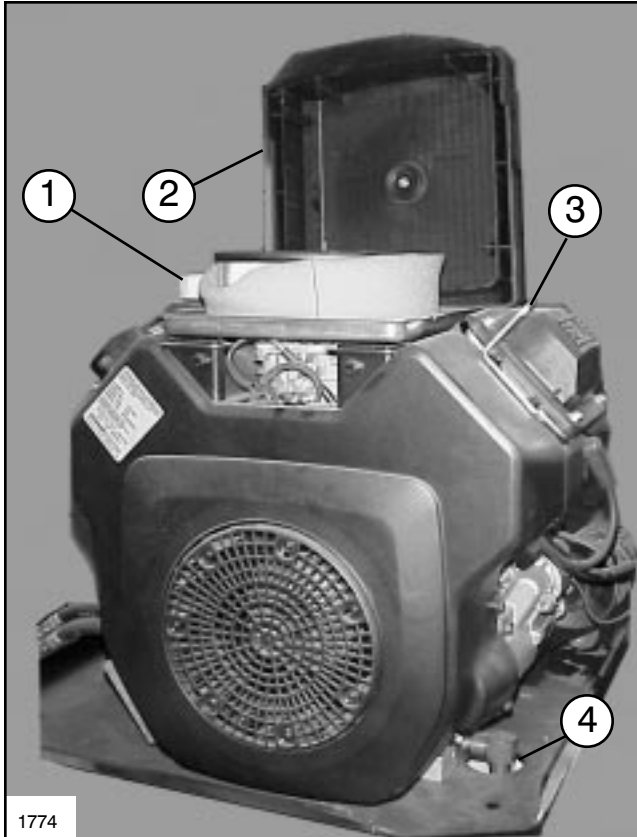
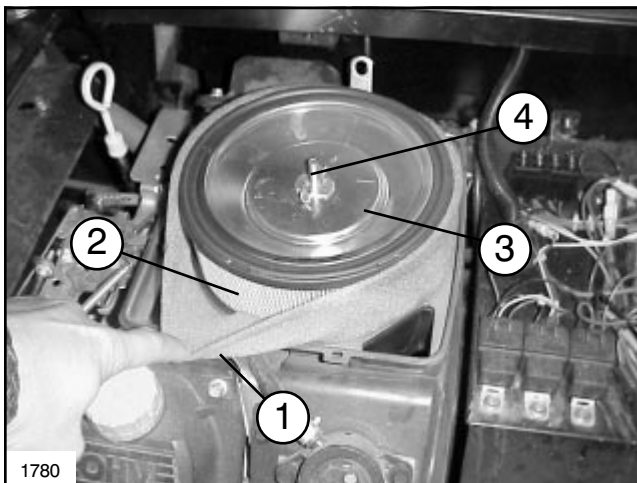
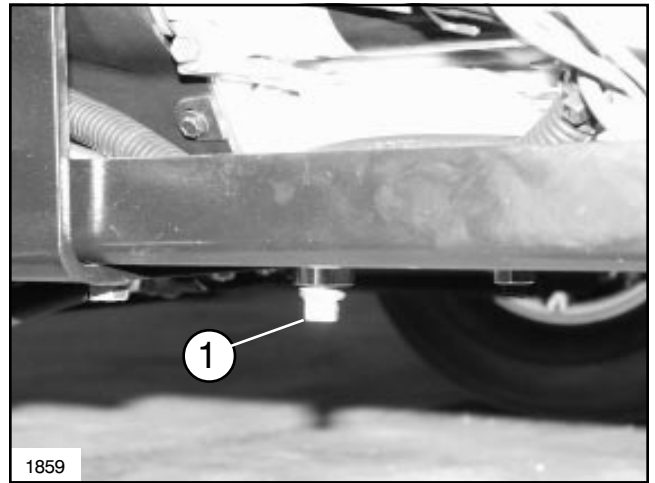

FIG. 12
FIG.13
FIG. 17
1. Remove wing nut and Air Cleaner Cover. (See FIG. 12)
2. Remove the pre-cleaner (FIG. 13) from the paper element and wash in warm water with detergent. Rinse the pre-cleaner thoroughly until all traces of detergent are eliminated. Squeeze out excess water (do not wring). Allow the pre-cleaner to air-dry.
1. Remove the Air Cleaner Cover. (See FIG. 12) Remove the element cover nut washer, element cover and paper element with pre-cleaner. (See FIG. 13)
1. Drain the oil from the engine crankcase. For Oil Drain location see FIG. 17 this page, or FIG. 12, page 33.